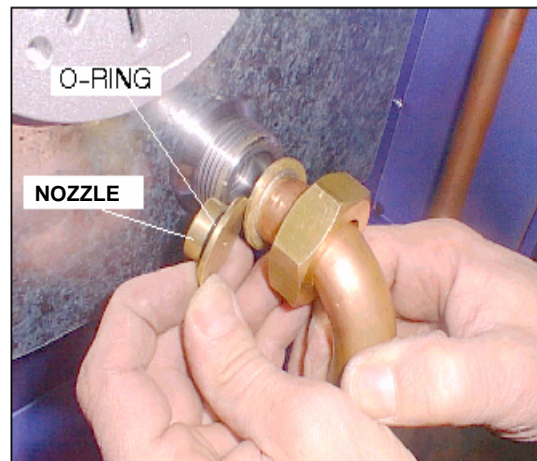

Figure 17
- D) Shove off the gas pipe and take off the nozzle. If necessary use the screwdriver as to lever it (see figure 17);